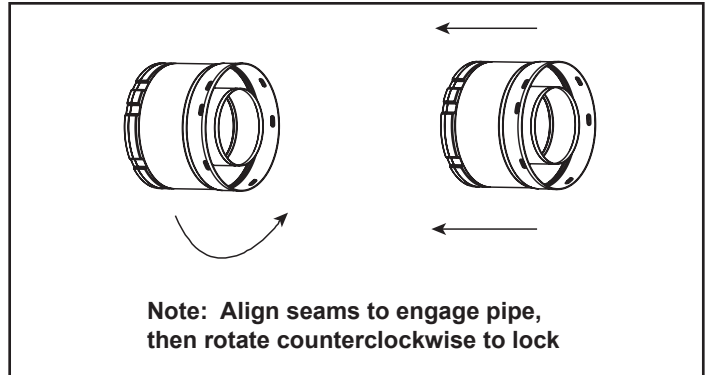

Figure 7.2 - Adding Venting Components
- Align the seam of the pipe and seam of collar to allow engagement. Rotate the vent component to lock into place. Use this procedure for all vent components. See Figure 7.2.